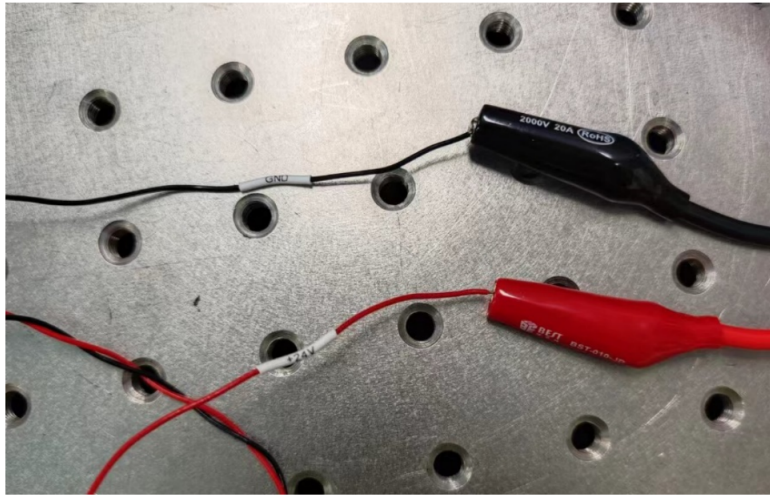

Figure 5 24V Power Supply Connection
- ▶ Connect the **24V power cable** to the **DC regulated power supply**. Ensure correct polarity according to the wire markings, as shown in **Figure 5**.